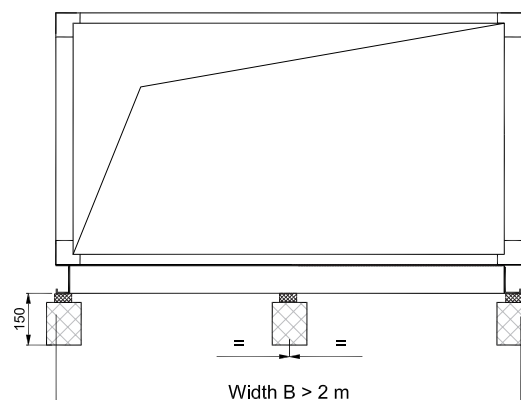

Figure 10
- IMPORTANT:** air handling units with widths of 2 m or more must be additionally equipped with a longitudinal support bar under the center of the air handling unit in the entire unit length, as shown in Figure 10. If in doubt, consult OC IMP Klima.